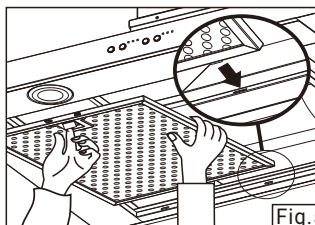

Fig.5-10
- (b) Hold the grease filter by one hand and pull the latch downward by the other. Tilt grease filter upward and insert tenon into groove. Then, push latch back to horizontally. (Fig. 5-10)